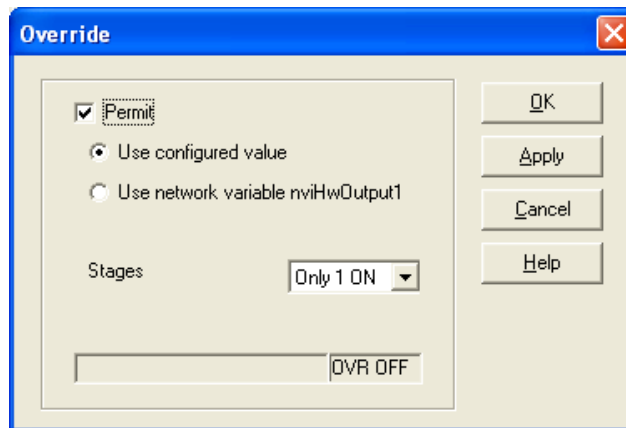

Figure 17: Override Window
10. Click the Override that corresponds to the duct heating you have configured to set up the override condition. The Override window opens (Figure 17).